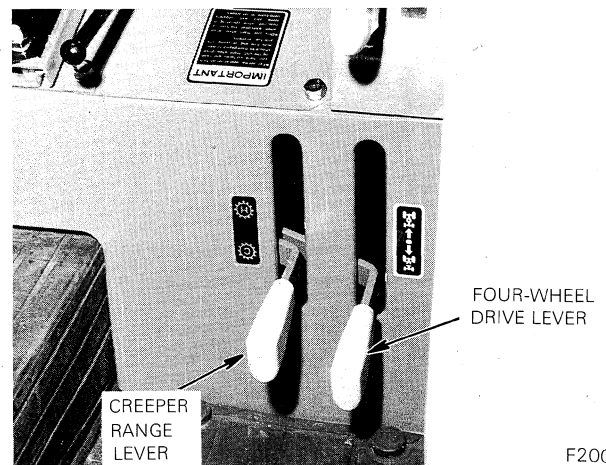

Figure 13 — Four-Wheel Drive Lever (Optional)
A creeper range accessory with a 10.56 : 1 ratio is available which provides an additional 12 forward and 4 reverse speeds or a total of 24 forward and 8 reverse speeds. The creeper range accessory of hydraulic shuttle transmission provides an additional 12 forward and 12 reverse speeds or a total of 24 forward and 24 reverse speeds. The control is located on the left-hand front of the rear-axle center housing, Figure 13, below the range selector lever. Full downward movement of the lever engages the creeper range. Full upward movement disengages it.
The shift lever for the four-wheel drive is located on the left-hand front of the rear axle center housing, figure 13. Full downward on the lever disengages the fourwheel drive (OFF). Full upward engages the fourwheel drive (ON).